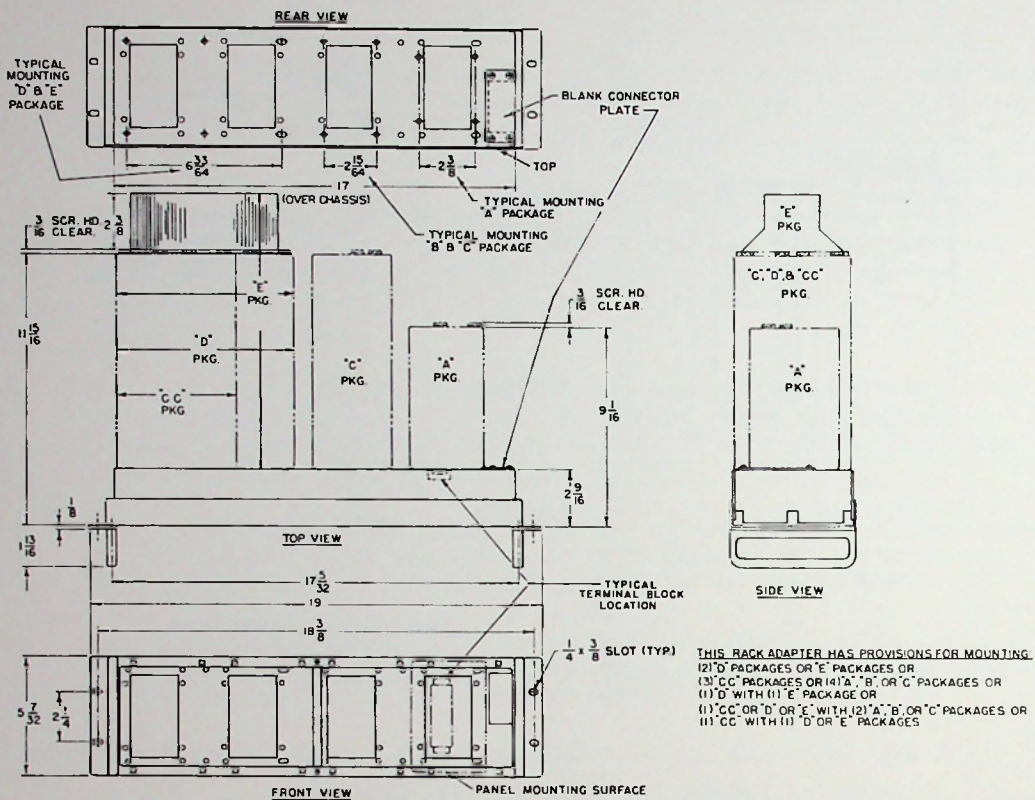

FIGURE 3. RACK ADAPTER LRA-3
RACK ADAPTERS, FIGURES 3 AND 4.
1. When using rack adapter LRA-3, Figure 3, position all modular units at rear of rack adapter so that the terminal block